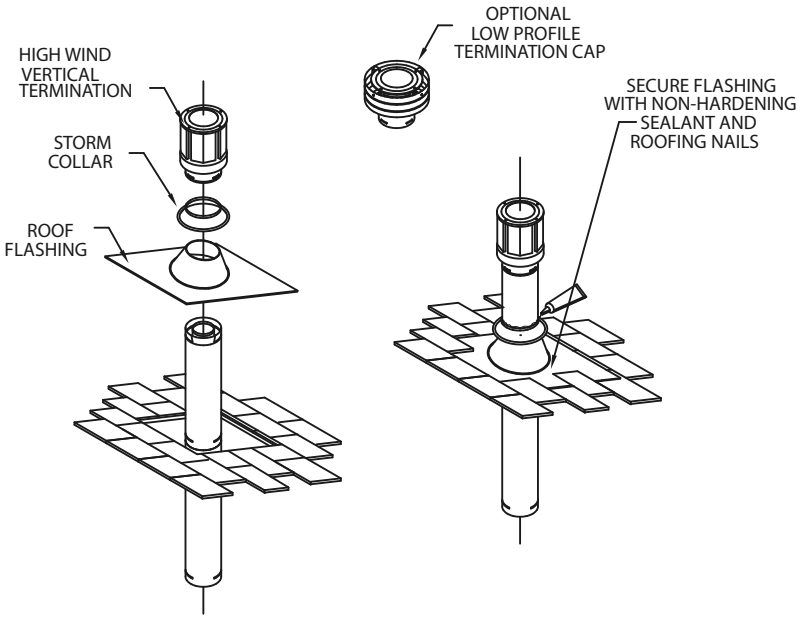

Figure 18
Secure the base of the Roof Flashing to the roof with roofing nails. Ensure the roofing material overlaps the top edge of the Roof Flashing (**Fig. 18**). Verify that you have at least the minimum clearance to combustibles at the roofline and in the attic.
**Step 9.** Slip the Storm Collar over the Pipe Section, and push it down to the top of the Roof Flashing (**Fig. 18**). Use non-hardening sealant between the Storm Collar and the Pipe Section.